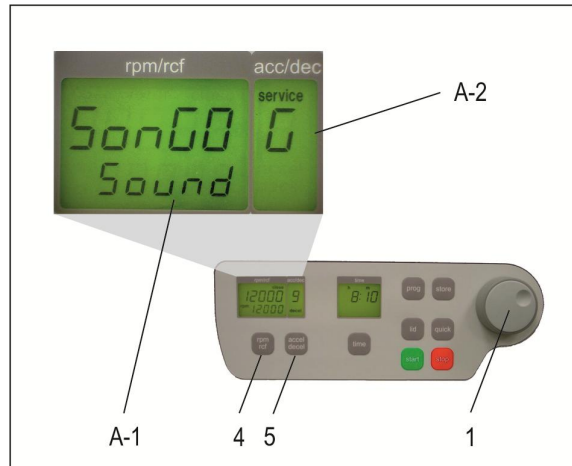

Figure 6
Proceed as described under point 1.8.1 to enter this program mode and then press the key „accel/decel“ (5). In the display „accel/decel“ (A-2) flashes the word „service“. Now select the letter „G“ with the adjusting knob (1). As a result appears in the display „rpm/rcf“ (A-1) the word „SonGo/Sound“. After pressing the key „rpm/rcf“ (4), you can select a song with the adjusting knob (1). (see figure 6).